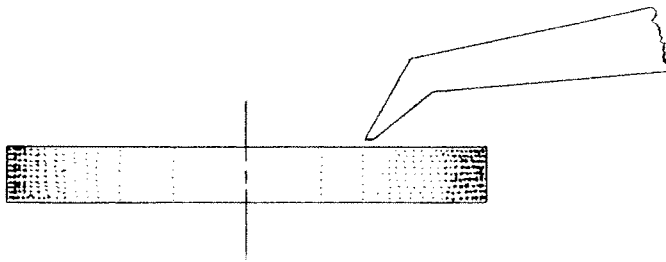
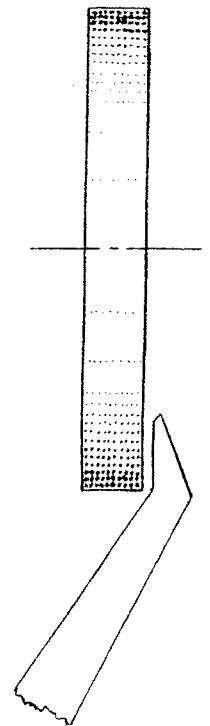

Figure 14
Figure 15
5. To sharpen the feed pawl, first grind the tip such that the grinding surface of the wheel is parallel with the length of the feed pawl. (See Figure 14) Do not grind off any more material than is necessary to bring out a sharp corner. Secondly, grind the back side of the tip on the pawl until the width of the tip is slightly less than 1/32 inch. (See Figure 15)